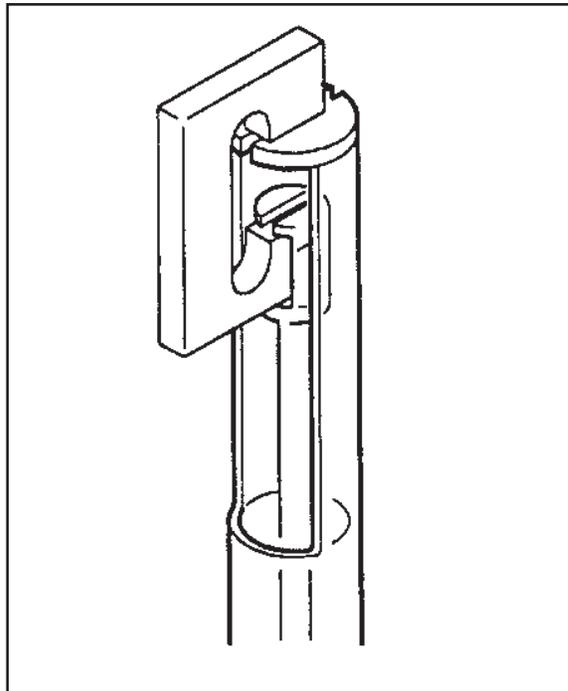

Figure 4.2
3. Open the probe and insert the gauge as shown in Figure 4.2.